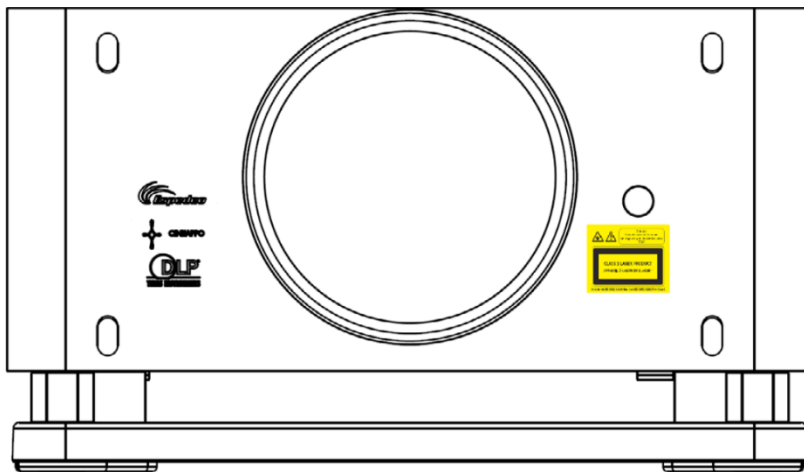

Figure 1: Laser Warning Label
- III. **Label Position:** Position of the laser warning label, as seen in **Figure 1**.